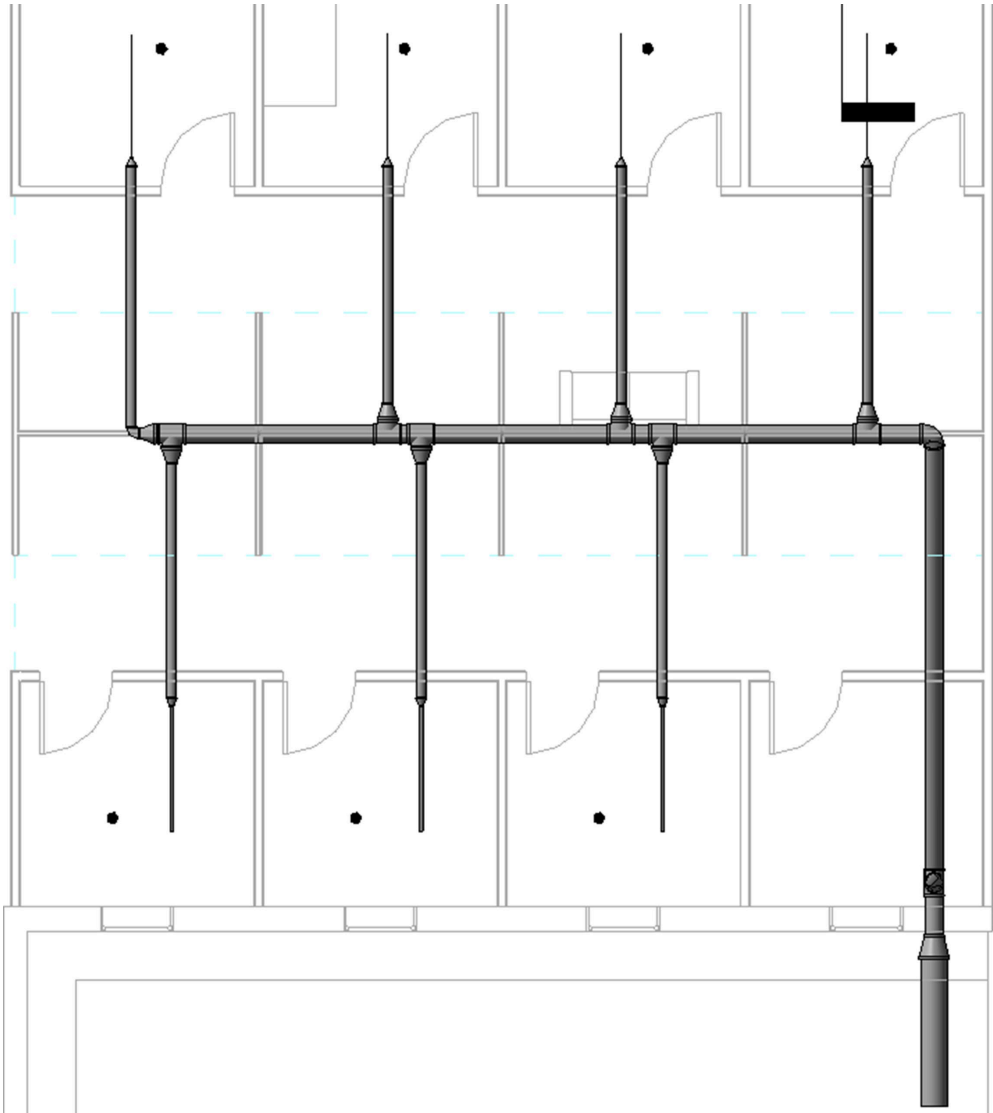

Figure 15.7 Reduction of pipes using diameters of 4" and 1-1/2"
8. Change the diameter to 4" and draw a pipe into each room just past the walls as shown in Figure 15.7
9. Change the diameter to 1-1/2" and draw a pipe just past the sprinkler head as shown in Figure 15.7